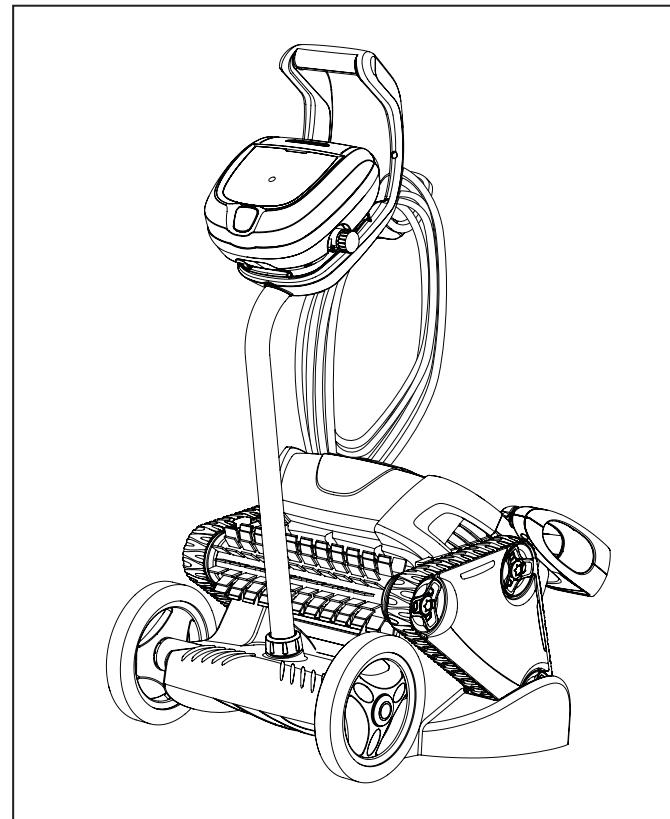

Figure 21. Cleaner Stored Correctly on Caddy
- Place the cleaner in vertical position on the caddy base with the rear tracks on the caddy side wedges (see Figure 21).
- Loosely coil the power cable starting at the cleaner and moving toward the connection point at control unit. Store the cable by wrapping it around the hook located on the front of the caddy (see Figure 21).